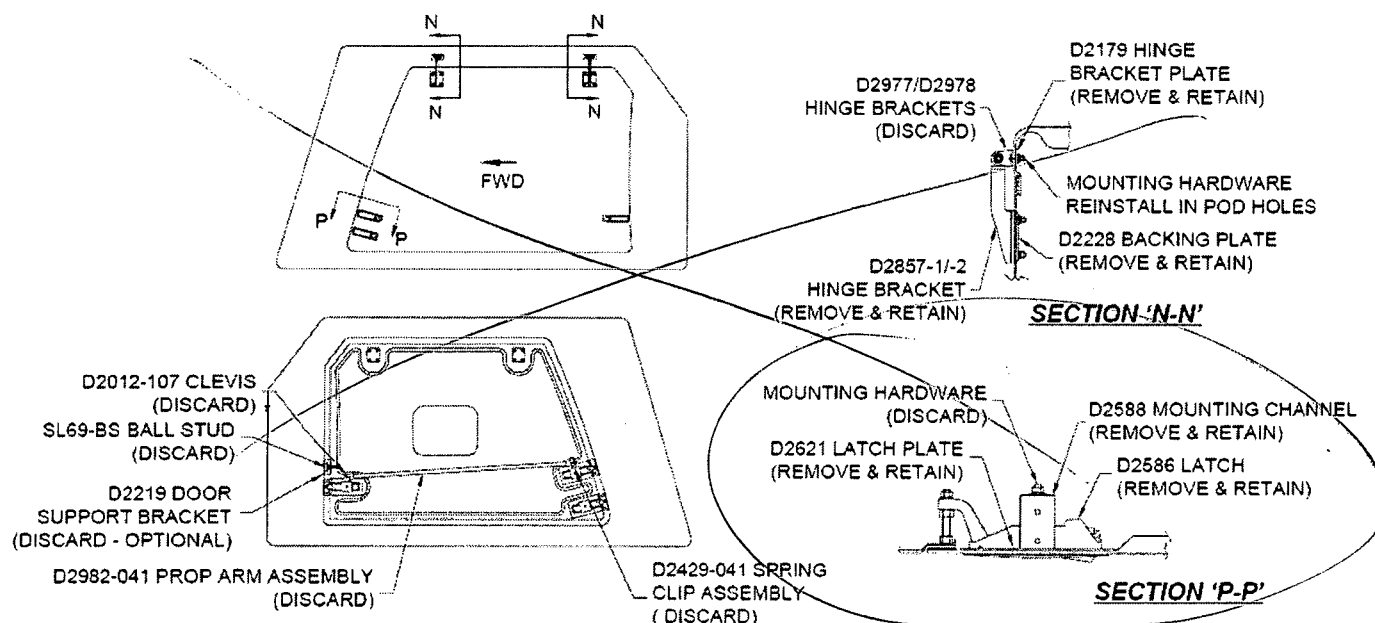

FIGURE 20 – COMPONENT REMOVAL FROM EXISTING SPACEPOD™ KIT
- 3.5.3 Remove the following components from the door and pod as shown in Figure 20: